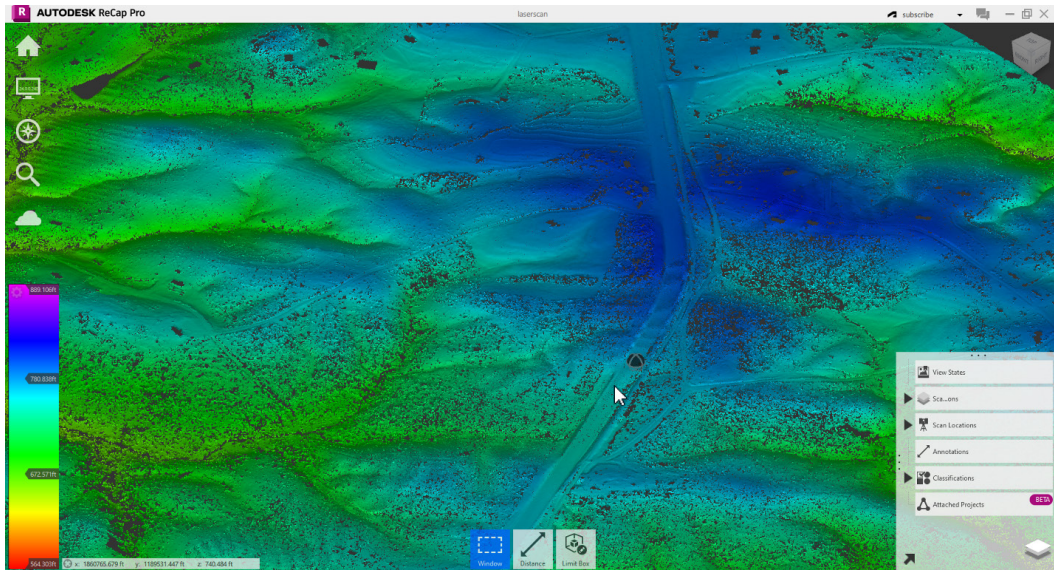

Figure 5.9 – Orbit sphere
- I. To zoom, use your mouse wheel to scroll up or down. This will allow you to zoom in or out of the dataset for more or less detail. This is perfect for zooming into the details or a certain area, or for a holistic view of the entire project site. You should notice that when you zoom in with your cursor on the dataset or point cloud, a small gray sphere appears where your cursor was when you began zooming. This is important as it centers the view on that area as you orbit and navigate in other areas as well. So, if you are having a hard time zooming into a specific area, watch where your gray sphere is and then adjust it if needed for a better vantage point. See *Figure 5.9* for a better idea of this.